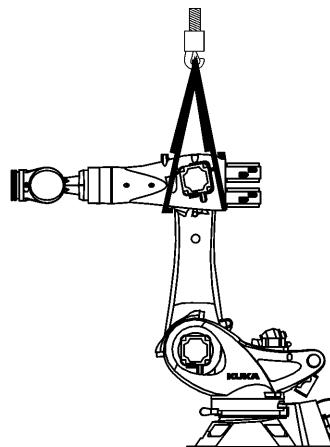

Fig. 11-20: Securing the link arm
9. Secure link arm using a rope sling and crane (>>> Fig. 11-20).